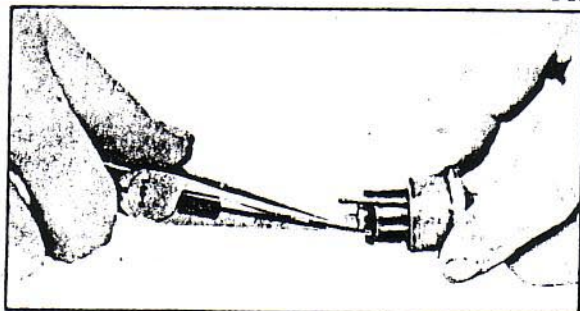

FIGURE 4
5. Remove contact sleeves from switch and/or coil (Figure 4).